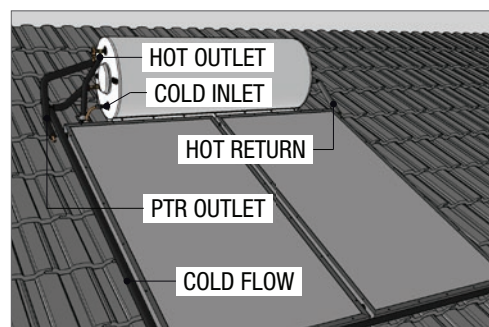

Fig 14
6. Complete the flow and return plumbing as per the particular system schematics (fig 14)